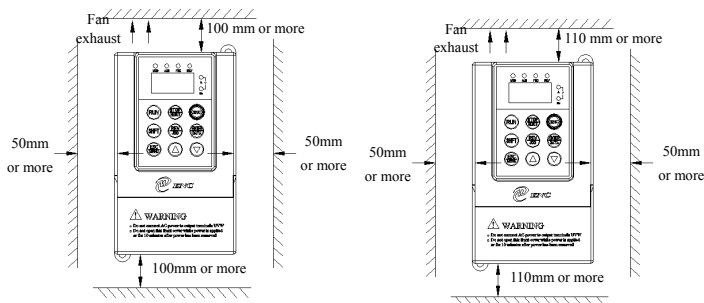

Fig. 3-1 Mounting space
- (1) Normally the inverter should be mounted vertically, horizontal mounting will seriously affect heat dissipation and the inverter must be used in lower volume.
- (2) Demand for minimum mounting space and distance, please see Fig.3-1.